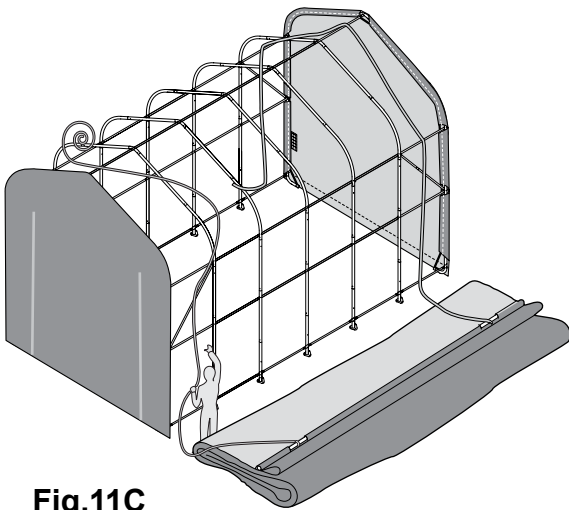

Fig.11C
C. Tie the rope on each of the exposed pipes and throw the other end of the rope over the frame. Fig. 11C